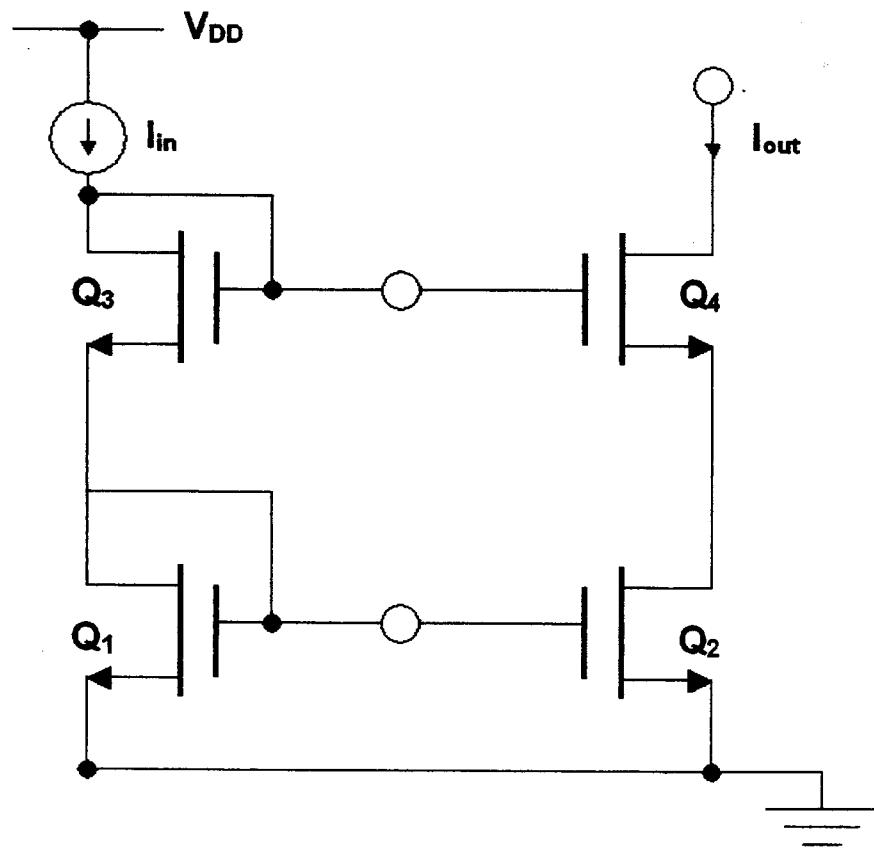

Figure 3.2
- (b) For the current mirror of Figure 3.2, estimate the minimum output voltage while still maintaining saturated devices. Derive this voltage swing in terms of the device threshold voltage, V_T , clearly stating any assumptions you make. [5]